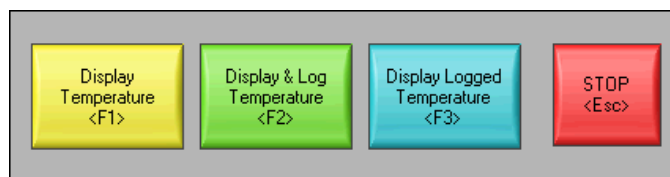

Figure 12.4
The front panel contains four Boolean buttons (Figure 12.4). The mechanical action of the first three buttons is Latch When Pressed. This setting changes the control value when you click it and retains the new value until the VI reads it once. At this point the control reverts to its default value, even if you keep pressing the mouse button. This action is similar to a circuit breaker and is useful for stopping While
3. In the Key Assignment section, assign the shortcut key shown in the Figure 12.4.